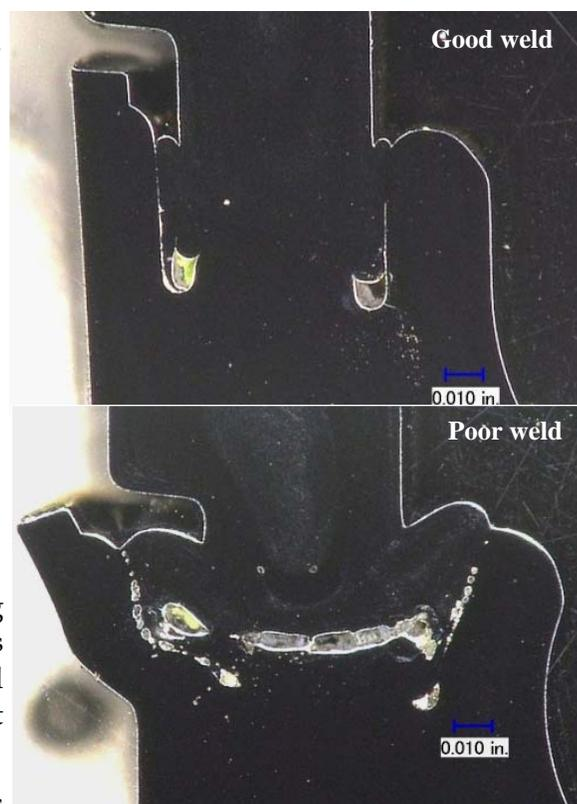

Figure 1: Ultrasonic weld cross-sections.
- Plastic welds (*Figure 1*)
- Suspected void regions (*Figures 1, 3, and 6*)